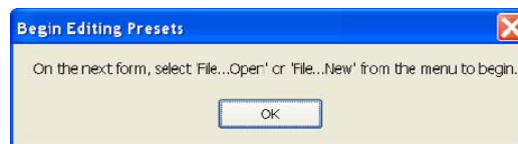

Figure 3-56: Existing or new file warning
- Step 5 If this is the first time performing this operation, a warning message will indicate the need to select the File pull-down menu in order to either open an existing preset or to create a new preset in the next window (Figure 3-56). Click OK.